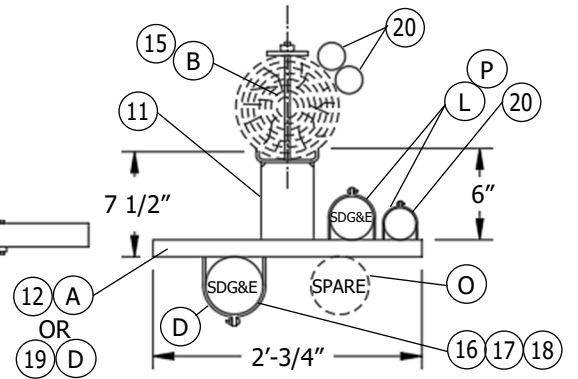

FIGURE 2
- (A) MOUNT FIRST BRACKET LADDER ARM NO LOWER THAN 9 FEET 6 INCHES. IF THE FIRST BRACKET EXTENDS TOWARD A STREET OR DRIVEWAY, OFFSET THE UNISTRUT CHANNEL TO CLEAR LARGE VEHICLES.
- (B) INSTALL AT LEAST ONE LADDER ARM BRACKET FOR EACH COUPLING JOINT OF CONDUIT, WITH A MAXIMUM 10-FOOT DISTANCE BETWEEN BRACKETS. ALL LADDER ARM BRACKETS TO BE ATTACHED TO THE POLE WITH BOLTS, NOT LAG SCREWS.
- (C) REFER TO INDIVIDUAL CABLE POLE STANDARD FOR CORRECT MEASUREMENT.
- (D) CENTER CONDUIT POSITION SHALL BE USED FOR MULTIPLE SDG&E SECONDARY RUNS OR SDG&E TELECOMMUNICATION CONDUIT. OTHER CONDUIT POSITIONS ON THE FRONT OF THE BRACKET SHALL BE USED FOR A SINGLE OR DOUBLE CONDUIT. THE 8-INCH UNISTRUT CHANNEL (ITEM 19) MAY BE INSTALLED FOR A SINGLE RISER WHERE NO COMMUNICATIONS ARE ANTICIPATED.
- (E) RISERS OF PLASTIC CONDUIT SHALL BE EPC-80 PVC SCHEDULE 80, FROM THE GROUND LINE TO A LEVEL NOT LESS THAN 8 FEET ABOVE THE GROUND LINE PER G.O. 95 RULE 54.6-E AND SDG&E CONDUIT SIZING REQUIREMENTS.
- (F) FOR SINGLE RISER CONSTRUCTION, SEPARATION OF PIPE STRAPS (ITEM 8) SHALL BE 3 FEET MAXIMUM.
- (G) USE FIGURE 2, PREFERRED CONSTRUCTION FOR A SINGLE RISER WHEN: